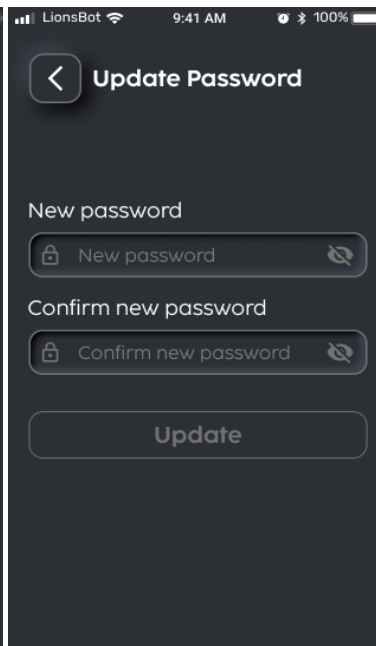
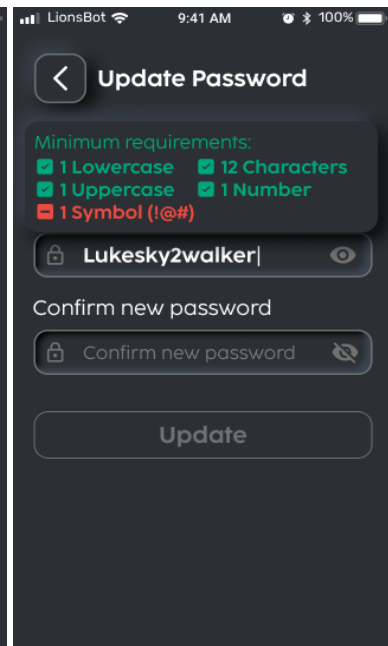

FIGURE 7-6
FIGURE 7-7
4. Enter a new password (Fig. 7-6). New password must meet the minimum requirements to proceed (Fig. 7-7).